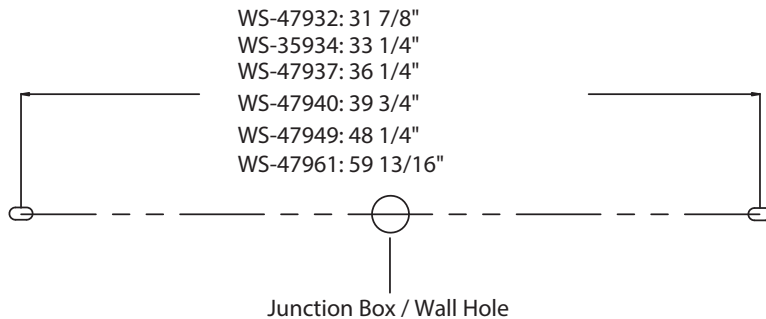

Fig.4 Wiring
1. Drill a fixture mounting hole according to (installation location), insert the plastic anchor (D).
2. Remove the mounting screw (B) and the end cap from the fixture.
4. Connect the fixture's wires to house wires as shown in Fig.4, making sure that all wire connectors (A) are secured. If your outlet box has a green or bare copper ground wire, connect the fixture's ground wire to it. Otherwise, tuck the fixture's ground wire directly to the fixture. After wires are connected, tuck them carefully inside the wall hole.
5. Slide diffuser slightly out of the way to review the plastic anchor location on the back, then fasten the fixture to the wall using wood screw (E).
6. Secure the end cap to the fixture using mounting screw (B) to seal the diffuser.
1. Secure the assembly screw (G) and decorative plate (F) to the fixture, then replace the existing silicon gasket with the supplied silicon gasket (C).
2. Drill a fixture mounting hole according to (installation location), insert the plastic anchor (D).
3. Remove the mounting screw (B) and the end cap from the fixture.
4. Connect the fixture's wires to house wires as shown in Fig.4, making sure that all wire connectors (A) are secured. If your outlet box has a green or bare copper ground wire, connect the fixture's ground wire to it. Otherwise, tuck the fixture's ground wire directly to the fixture. After wires are connected, tuck them carefully inside the junction box.
5. Slide diffuser slightly out of the way to review the plastic anchor location on the back, then fasten the fixture to the wall using wood screw (E), make sure to align the decorative plate to adequately cover the junction box wall opening.